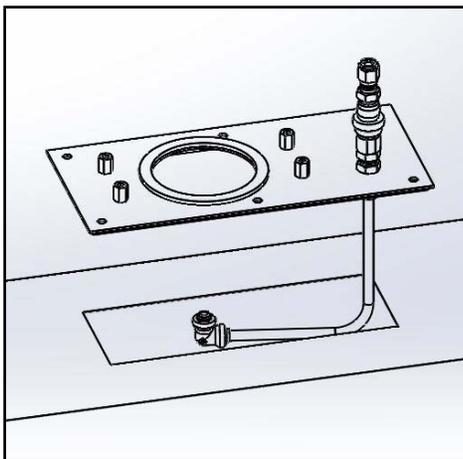

Figure 7
- (4) Remove the base assembly from the carton and align the cut out in the rectangular gasket underneath the base plate with the duct cutout, as shown in Figure 7.